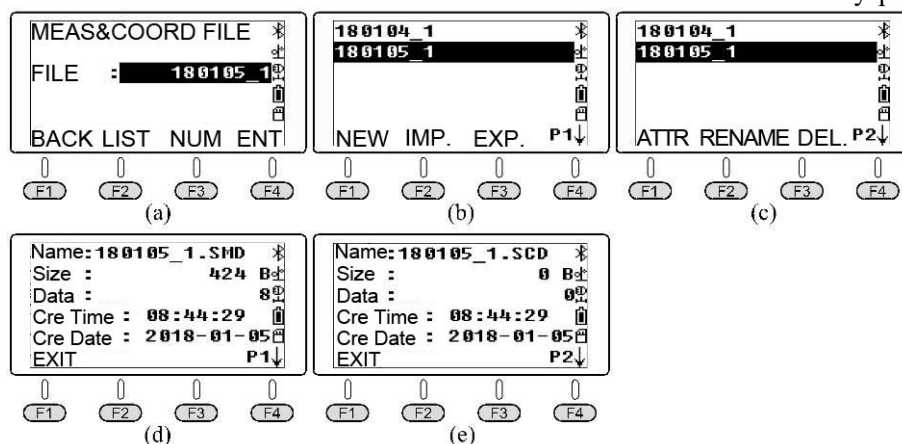

Figure 2-20 Commands of New and ATTR in the function menu of commands of "File/List" point name last inputted plus 1.
As shown in Figure 2-17(b), Vertical Angle is defined as the angle between horizontal direction to the alignment axis of the telescope. Elevation angle is a positive angle while Depression angle is a negative angle. Press button **F3** (CPMS) to switch the reading of vertical plate between zenith distance (or slope) and Vertical angle, as shown in Figure 2-20.
The default vertical angle of M8 series total station is "Zenith zero". Set the reading of vertical angle in face left as L, and then the vertical angle in the direction of the telescopic alignment axis is $\alpha=90^{\circ}-L$. Insert the L as shown in Figure 2-20(a) and obtain the vertical angle $\alpha_L=90^{\circ}-75^{\circ}00'00''=15^{\circ}00'00''$. The results are equal to those in Figure 2-20(b).
④ Export files to SD card: On the interface of file list [Figure 2-20(b)], press button **(▲)** or **(▼)** to move the cursor to the required name of the file. Press button **(F3)** (Export)